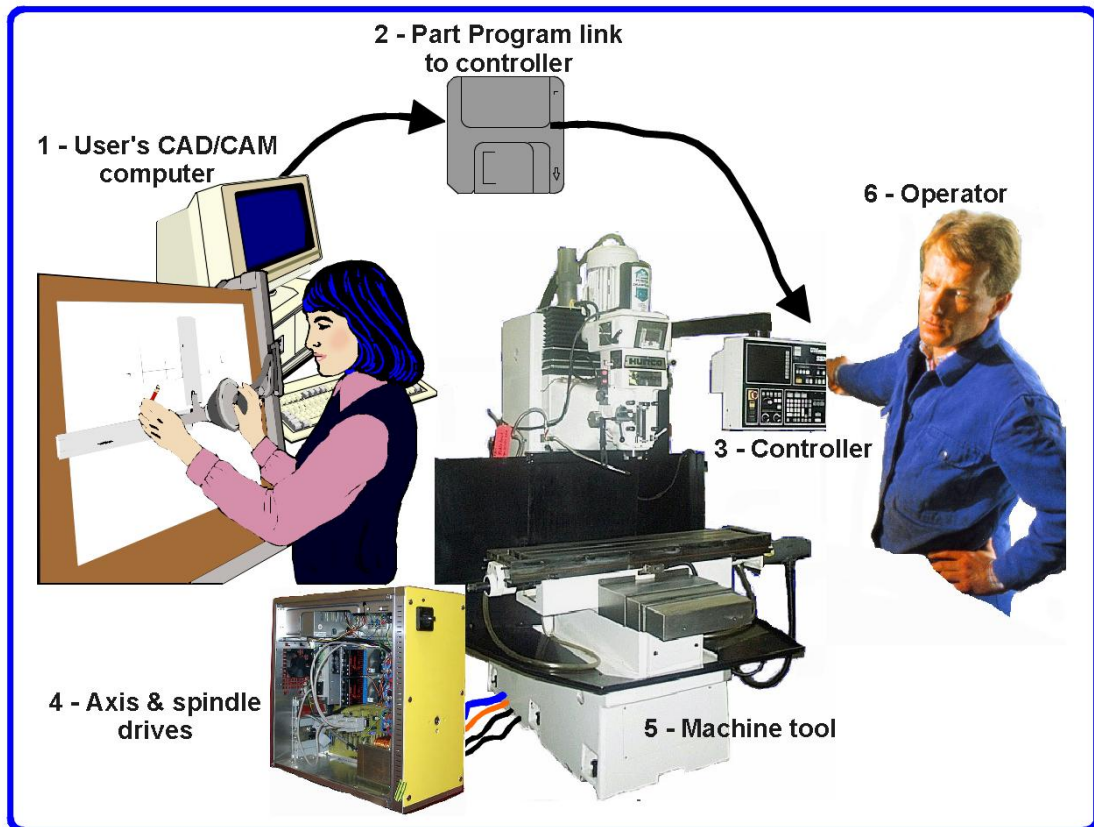

Figure 1.1 - Typical NC machining system
The main parts of a system for numerically controlled mill are shown in figure 1.1
Mach3 is a software package which runs on a PC and turns it into a very powerful and economical Machine Controller to replace (3) in figure 1.1.
To run Mach3 you need Windows XP (or Windows 2000) ideally running on a 1GHz processor with a 1024 x 768 pixel resolution screen. A desktop machine will give much better performance than most laptops and be considerably cheaper. You can, of course use this computer for any other functions in the workshop (such as (1) in figure 1.1 - running a CAD/CAM package) when it is not controlling your machine.